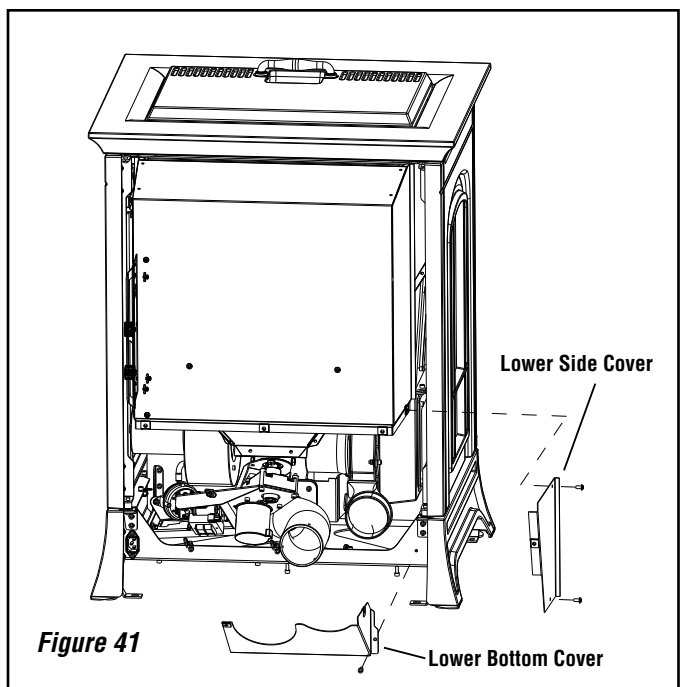

Figure 41
1. Locate the side cover in the left rear portion of the stove (**Figure 41**) near the combustion blower and flue.
1. Locate the bottom cover (**Figure 41**) underneath the flue and air intake.